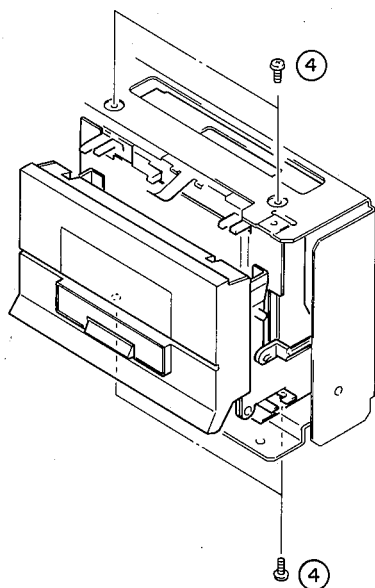

Fig. 2
- Remove 4 screws (4) in Fig. 2.